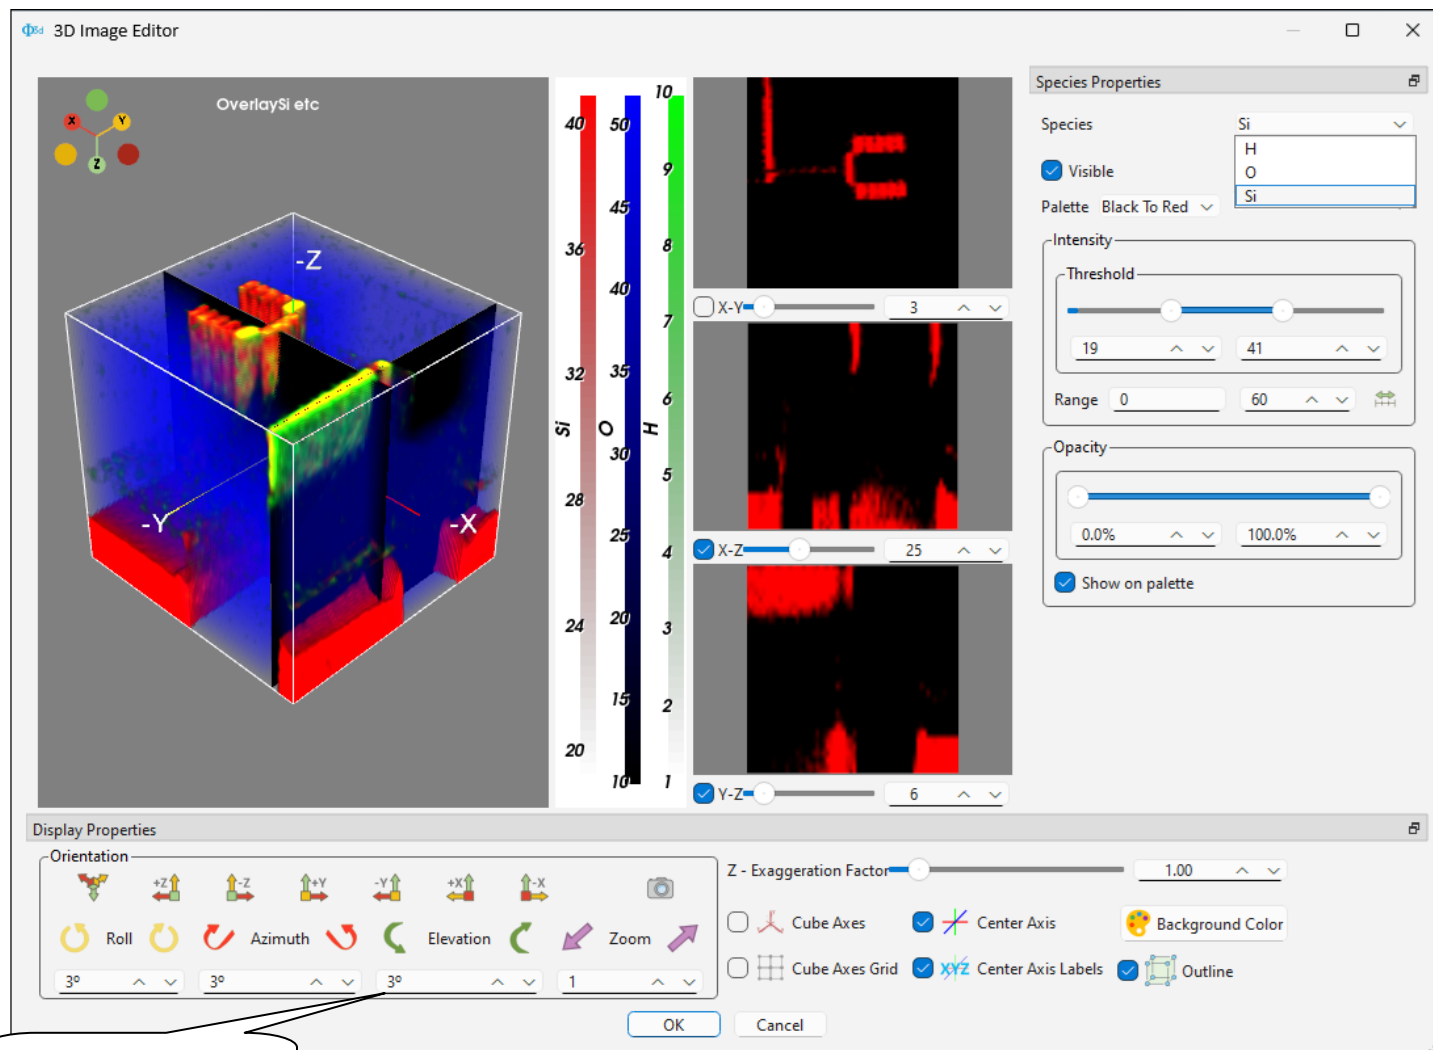

Figure 5 – 3D-Image Editor Dialog
To the right of the 3D-View is the area for color scale(s) – In Figure 5 Si is shown with a red color palette and an intensity scale range from 19 to 41, O with blue and a scale range from 10 to 50, and H with green and a scale range from 1 to 10 – note that other colors (orange, yellow) appear in areas where Si and H overlap.
On the right side, are the Species properties – when multiple species are overlaid, choose a particular species from the Species drop-down (Si is shown selected in Figure 5) in order to set the Intensity Threshold, Opacity etc for that species.
**Threshold** -- Low and High, use the slider or spin box to adjust the color scale range. In Figure 5, the threshold for Si is shown with Low=19 and High=41. These values define the range of the color scale (seen in the color scale area) for Si, and indicate which color in the palette corresponds to a particular intensity (e.g. in Figure 5, pixels with intensity of 41 or higher are rendered with the most intense color of red).
**Opacity** -- Low and High, use the slider or spin box to adjust the opacity range, which determines how transparent a pixel is when 3D ray tracing is applied. In Figure 5, the opacity for Si is shown with Low=0 and High=100. These values are applied linearly to the intensity threshold range shown in the color scale (e.g. in Figure 5, pixels with intensity of 41 or higher are rendered opaque, while pixels with intensity of 19 or lower are rendered entirely transparent).
Slice-Plane checkbox – When checked, the selected slice plane number will be shown rendered on the 3D-View (at left) as a black planer surface. For example in Figure 5, the XZ value is 25 and YZ value is 6 and both of these are rendered as a black planer surface in the 3D-View.